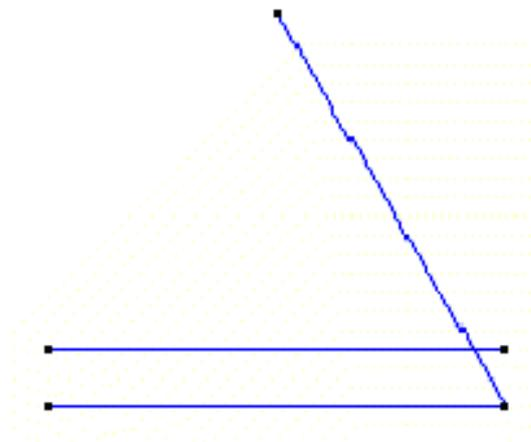

Figure 3. Creating the axes
- 13 . After making the selection, press **ESC** (or **Finish** in the **Copy** window) to indicate that the selection of lines to be rotated is finished. The result is shown in Figure 3.